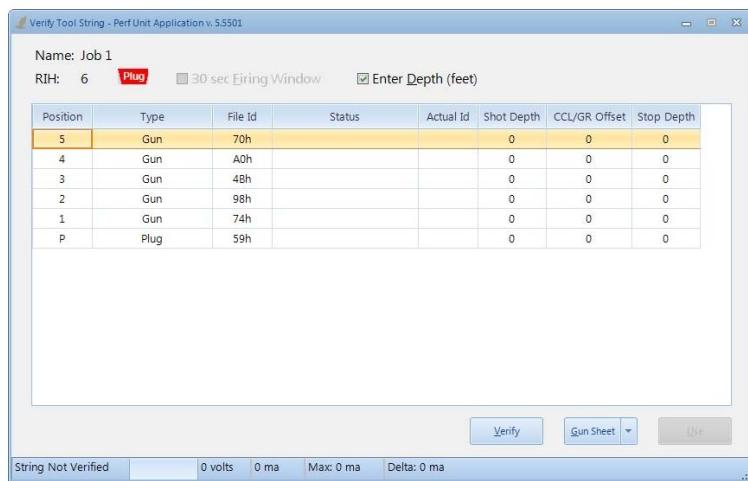

Figure 26
2. If you wish to enter depths for viewing purposes only, select the “Enter Depth” check box. Depth input columns for “Shot Depth”, “CCL/GR Offset” and “Stop Depth” appear as shown in Figure 26. **This step is optional.**